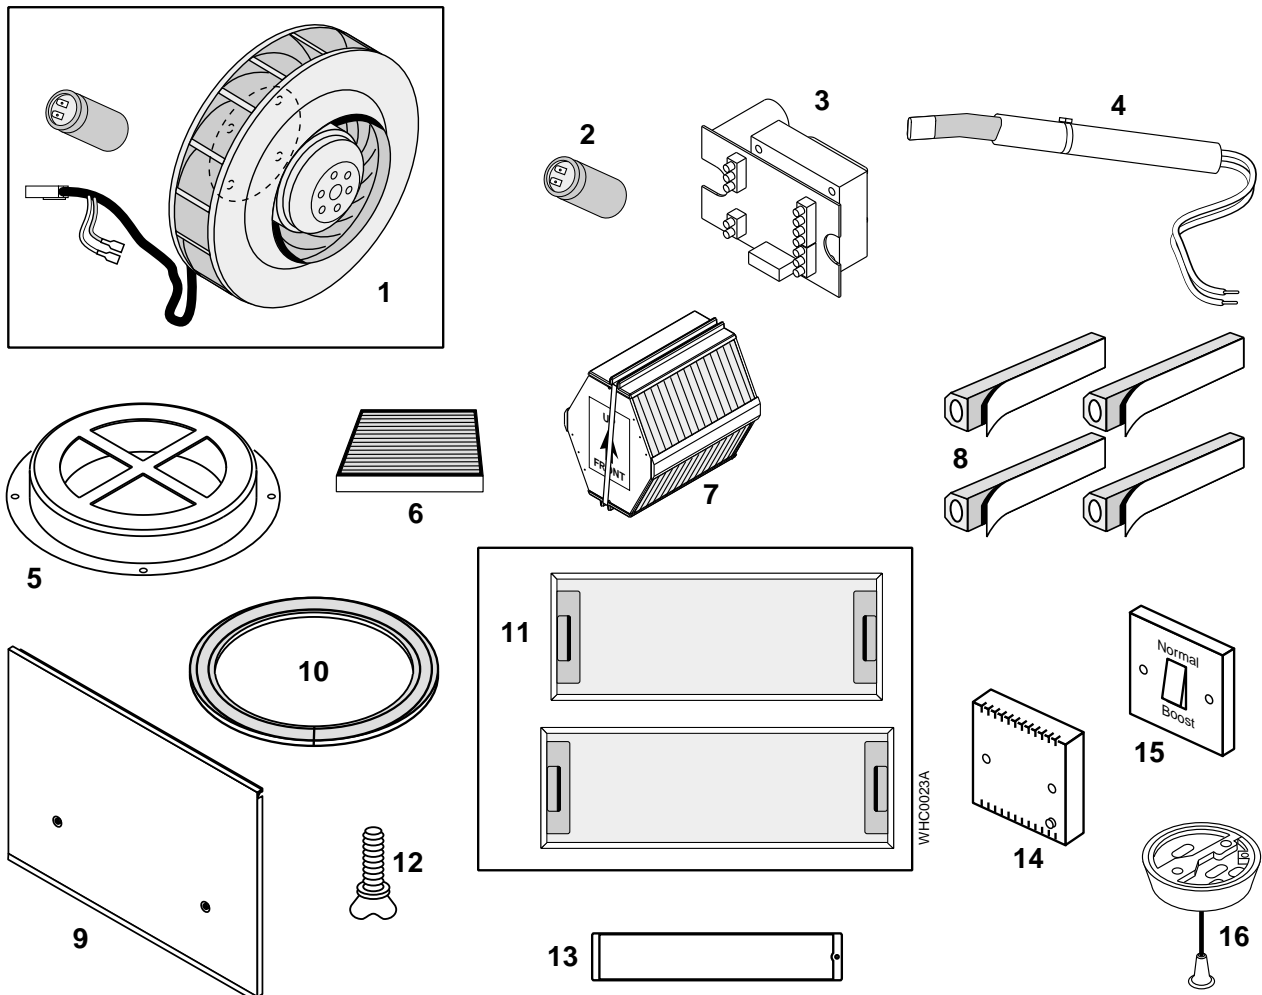

Fig. 28
4. Peel back the adhesive strip and carefully fit the new seal as shown in Fig. 28.